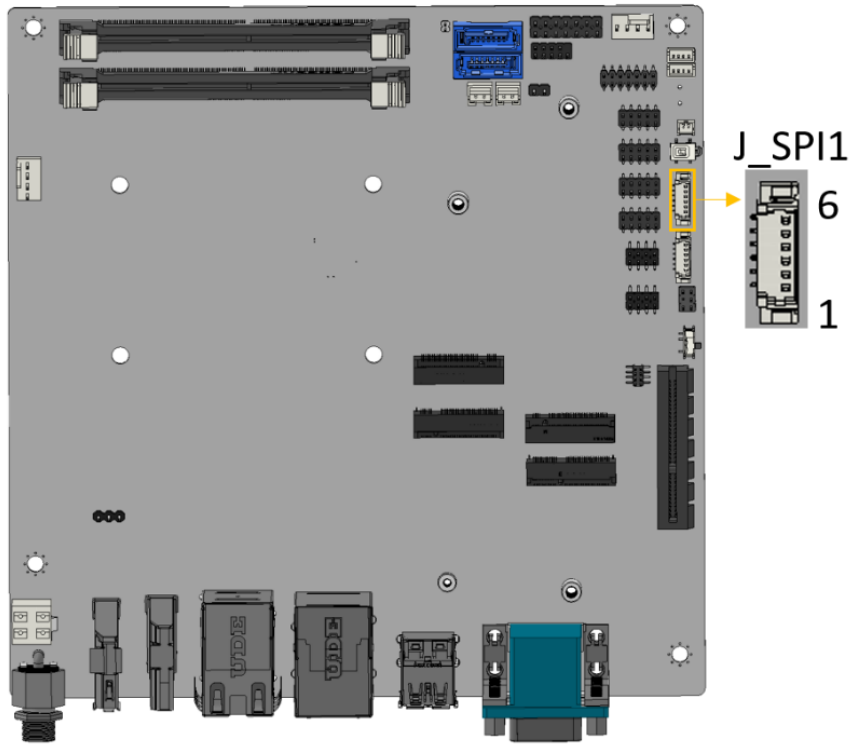

Figure 3-18: Flash SPI ROM Connector Location
- CN Location:** See Figure 3-18